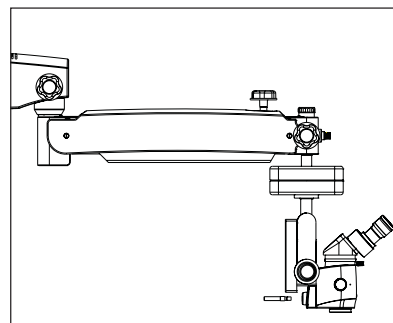

Fig. 14
7.20 Plug in the wire for foot control into the illumination box. See fig 14.